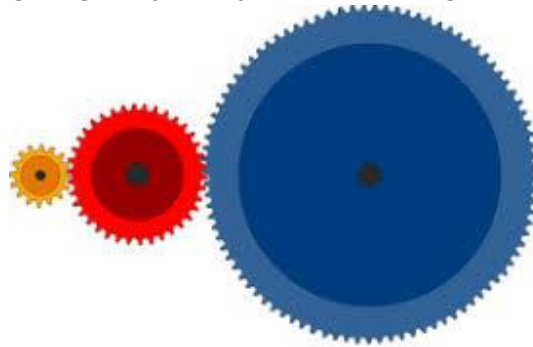

Figure 3: Gear system
c. Figure 3 shows a gear system. Describe the outcome of the **TWO** smallest gears (driven) in term of **direction**, if the largest gear (driver) will be rotating **clockwise**.